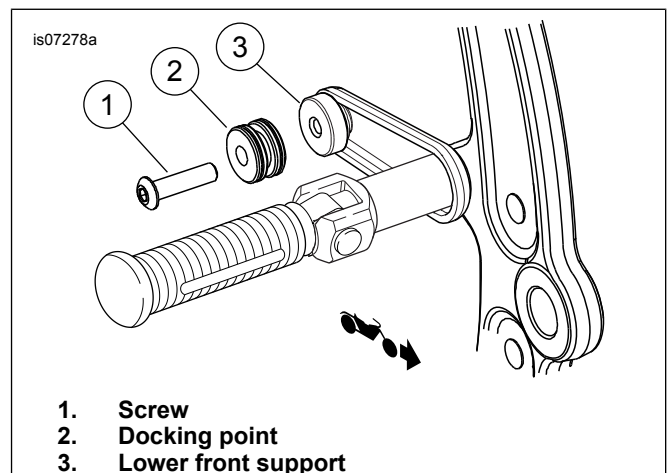

Figure 5. Lower Front Docking Point (Without Other Detachable Accessories)
1. See Figure 5. Install lower front saddlebag support assembly (3).
2. Install mini docking point (2) onto screw (1).
4. Install screw into the threaded hole of lower front support (3). Tighten screw to 16.3–24.4 N·m (12–18 ft-lbs).